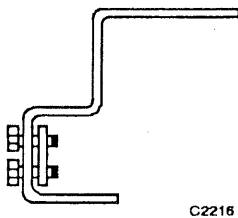

Fig. 1. Offset Crankarm.
- Offset Crankarm (Fig. 1): 14004667-001 (for 1/2-inch damper drive shaft, 1.9-inch offset)
1. Obtain one 14004667-001 offset crankarm (Fig. 1).